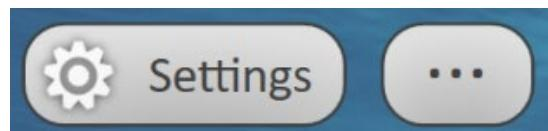

Figure 7-35: Operating Conditions Button
1. Locate and press the [...] button on the Generator screen (**Figure 7-35**)